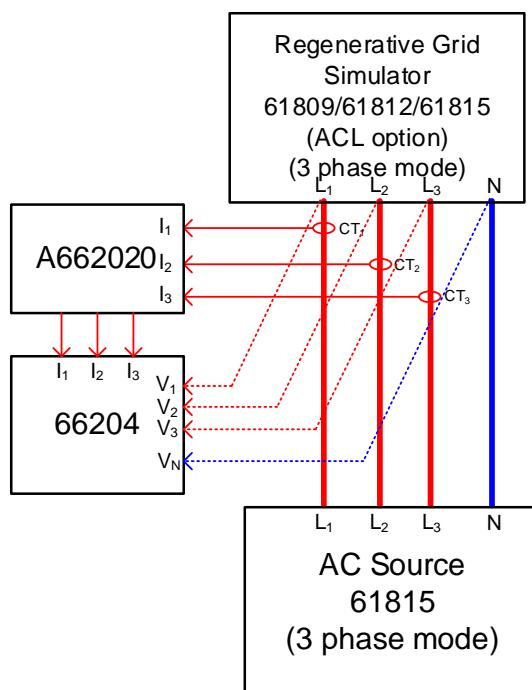

Figure 7-5
- Connect the Regenerative AC Load, AC Source, Power Analyzer, and Current Transducer as shown in Figure 7-5. Use the Power Analyzer to measure the AC Iac current.
- Connect the Regenerative AC Load, AC Source, Power Analyzer, and Current Transducer as shown in Figure 7-5. Use the Power Analyzer to measure the apparent power S.